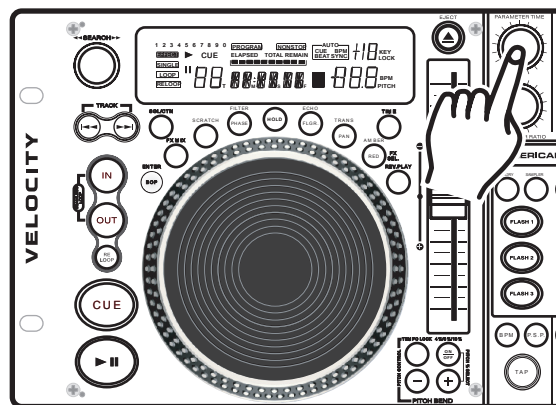

Figure 57
User Preset: To store a user preset; be sure the PSP banks reads 0 in the *LCD (16)*. Turn the *HOLD (18)* function on and select your effect. To enter the parameters menus for any of the effects, press or turn either of the two *PARAMETER KNOBS (13 OR 14)* as in figure 57. When the parameter mode is selected the time display in the *LCD (16)* will change to indicate the parameter your are adjusting. All effects except the pan effect have two adjustable parameters. *PARAMETER TIME (13)* and *PARAMETER RATIO (14)*. Use these knobs to customize the effects to your liking.
All the effects have adjustable parameters. The parameters change the way the effect will react. To enter the parameters menus for any of the effects, press or turn either of the two *PARAMETER KNOBS (13 OR 14)* as in figure 57. When the parameter mode is selected the time display in the *LCD (16)* will change to indicate the parameter you are adjusting. All effects except the pan effect have two adjustable parameters. *PARAMETER TIME (13)* and *PARAMETER RATIO (14)*. Use these knobs to customize the effects to your liking.